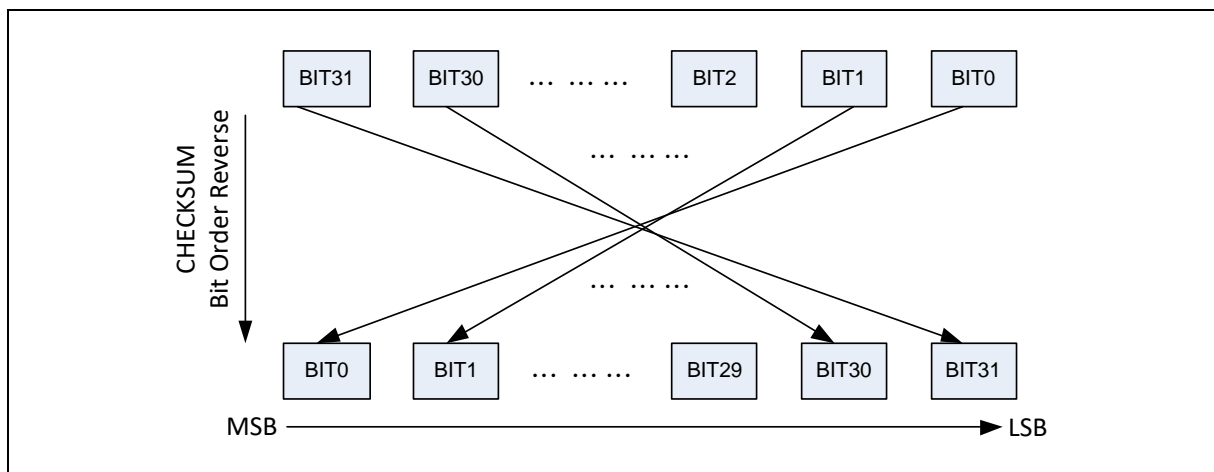

Figure 6.26-2 CHECKSUM Bit Order Reverse Functional Block
- 1) Configure bit order reverse for CRC checksum by setting CHKSREV (CRC\_CTL[25] Checksum Bit Order Reverse). The functional block is also shown in Figure 6.26-2 CHECKSUM Bit Order Reverse Functional Block